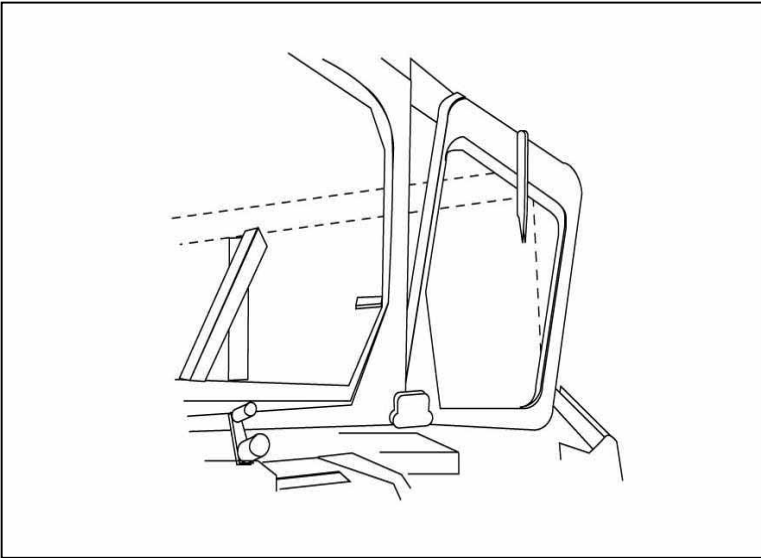

Figure 3-3-4: Windshield Removal
- b. **Windshield Removal.** To remove the windshields (see Figure 3-3-4), proceed as follows:
- (1) Remove windshield wiper arms from drive crank and fold below the base of the windshields.
- (2) Remove the spring clips securing both windshields.
- (3) Both windshields are removed at the same time.
- (4) Pull out on top of the windshields until they are clear of mounting pins.
- (5) Lift up on the windshields until they are free of the securing lugs on the bottom of the frame.
- (6) Place the windshields upright (frame to frame) with the centre of the windshields' frame facing the hatch against the front wall of the R3 compartment. They are secured in position with a spring loaded latch on the roof and a metal brace on the floor of the compartment.
- (7) Place the tarpaulin on the floor of the R1 compartment.